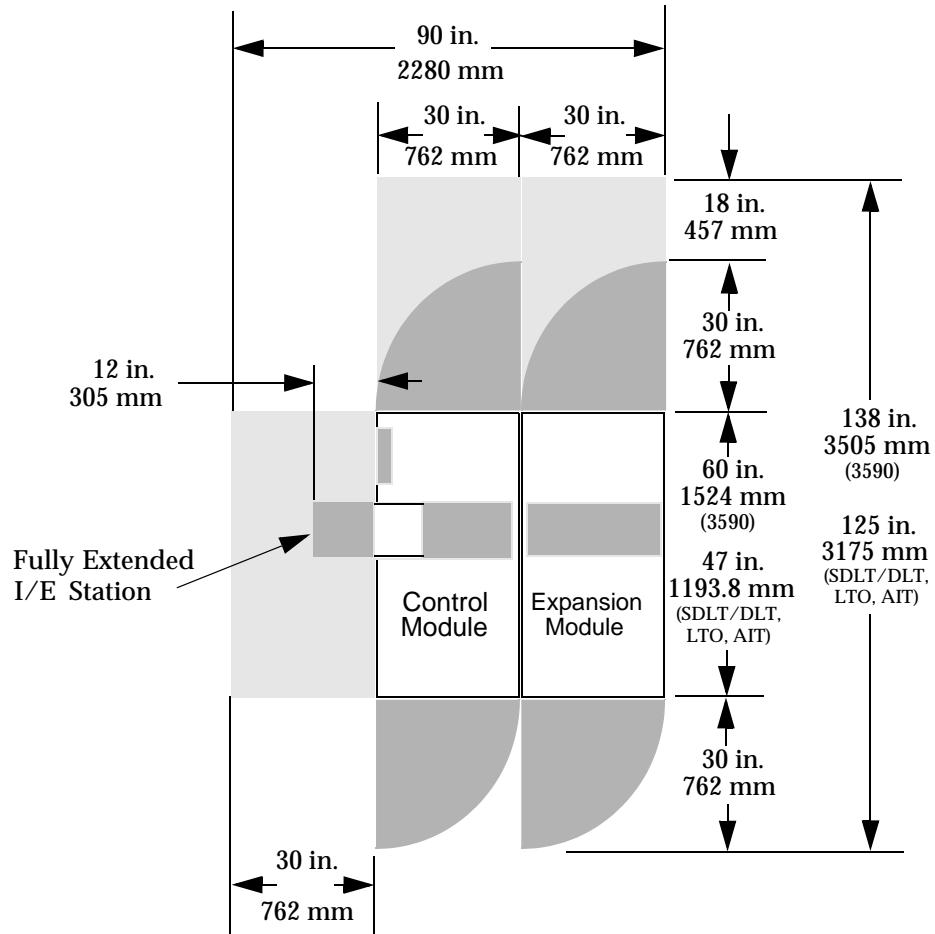

Figure 3-2 Library with One Expansion Module
- Library with One Expansion Module, Figure 3-2 on page 3-5